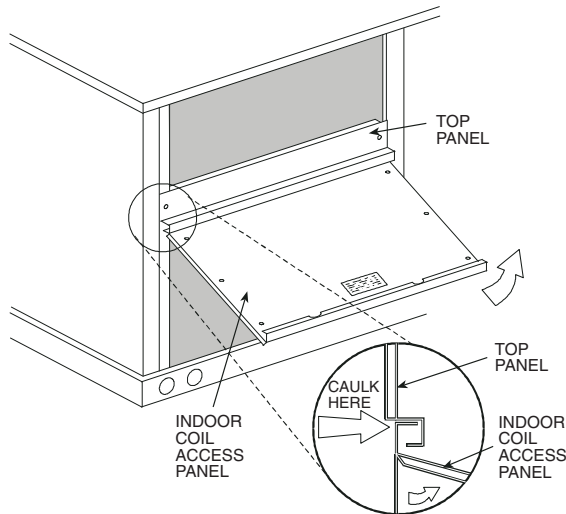

Fig. 15 — Indoor Coil Access Panel Relocation
1. The indoor coil access panel will be used as the top of the hood. Remove the screws along the sides and bottom of the indoor coil access panel. See Fig. 15.